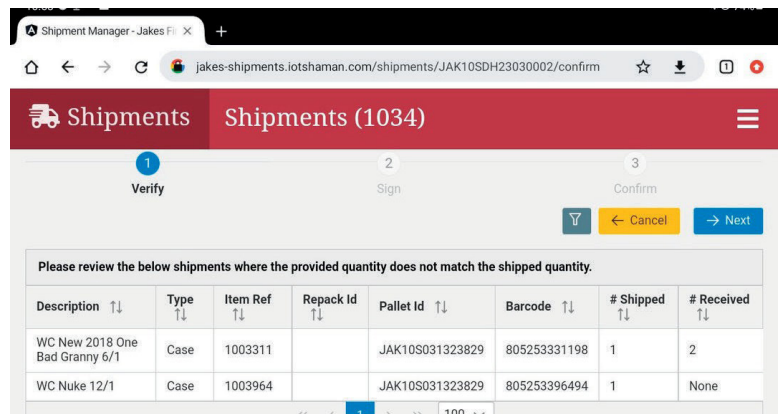

Figure 17
- b. Once you are certain the changes displayed here are correct, click NEXT (Figure 17).